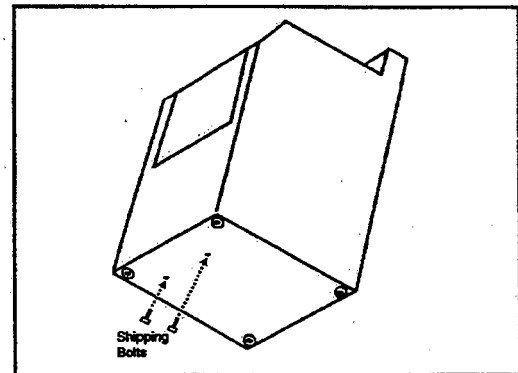

Figure 1-4
3. Locate the two (2) ½" hex-head shipping bolts extending up through the bottom of the base (*Figure 1-4*). The shipping bolts are near the center of the base toward the front of the washer. Remove both bolts, freeing the tub and suspension. Do not be alarmed should the tub assembly shift when the last bolt is removed. Some shifting of the tub is normal.